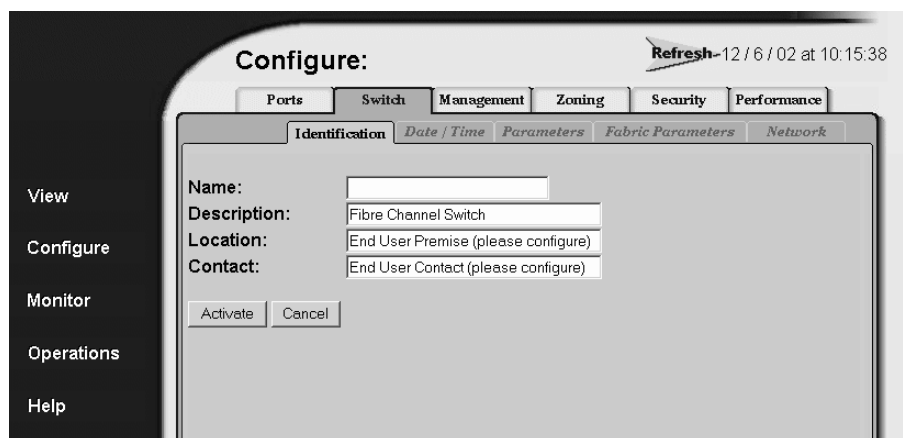

Figure 5: Configure product Identification tab view
1. Choose **Configure** from the navigation panel. Choose the **Switch** or **Director** tab, as appropriate. The **Switch** or **Director** tab displays with the **Identification** tab view (Figure 5).